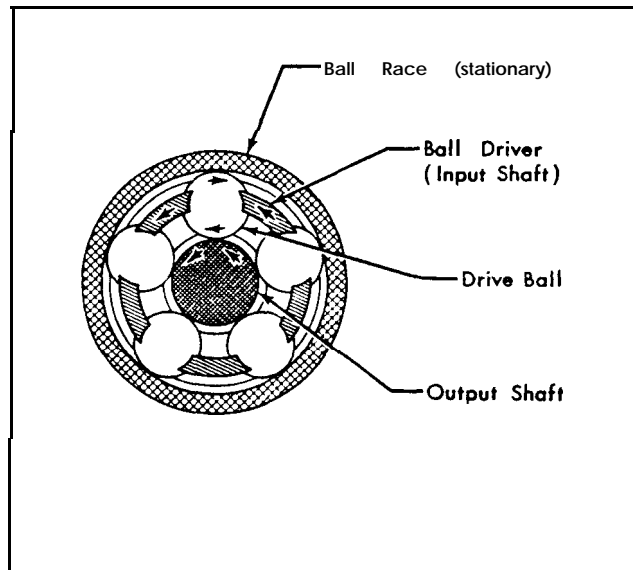

Figure 2
As the drive balls (D) revolve around the fixed cage formed by the two outer races, (E), they also rotate around their individual axis, as shown in Figure 2. This latter motion is transmitted directly to the output shaft, (G), causing it to rotate. As the output shaft serves as the inner race of the planetary system, the system ratio, 1 : 4.4, is calculated between the inner diameter of the ball races and the raceway of the output shaft.